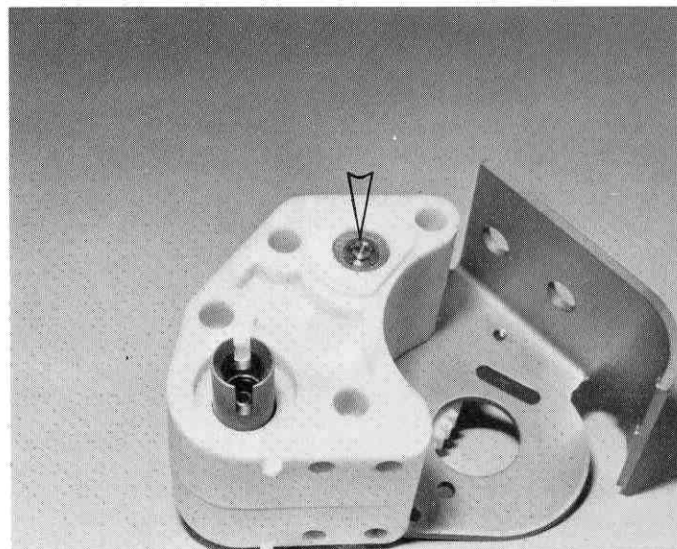

Fig. 91
- ☐ **Fig. 91** Make sure the "E" clip is seated correctly.